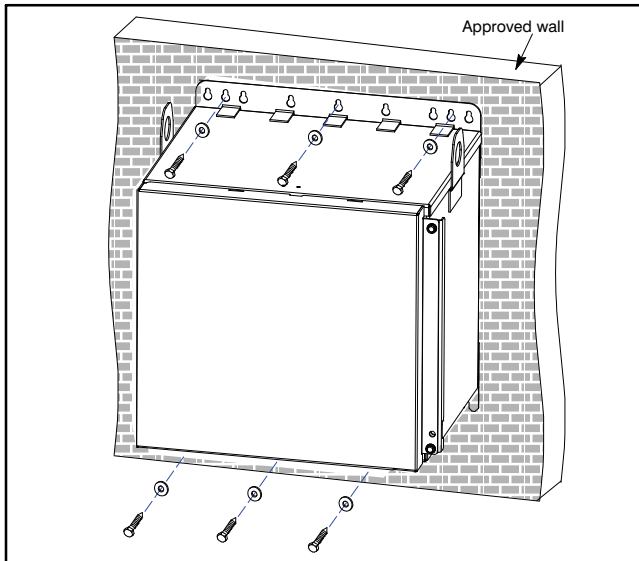

Figure 10. Wall Mounting
- Follow the steps below to mount the Boxer cabinet to an approved wall (Figure 10). The approved wall must be capable of supporting the combined weight of the cabinet, the equipment mounted inside the cabinet, plus the optional battery box (and batteries), if installed. Westell recommends a minimum installation height of 30" from the ground. See Figure 5 for cabinet and mounting hole dimensions.